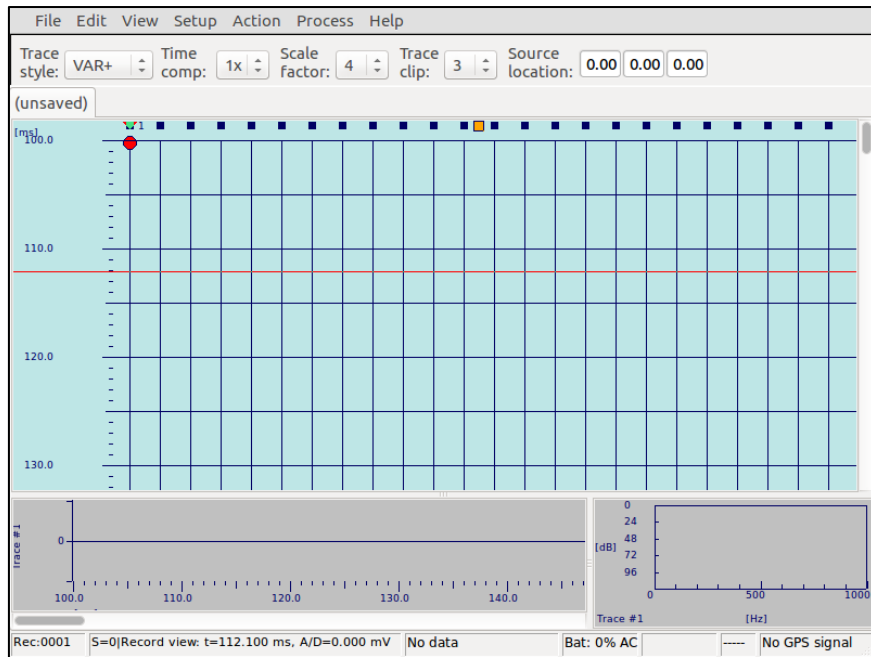

Figure 23 The red timeline
- Moving a timeline across the view (Figure 23)